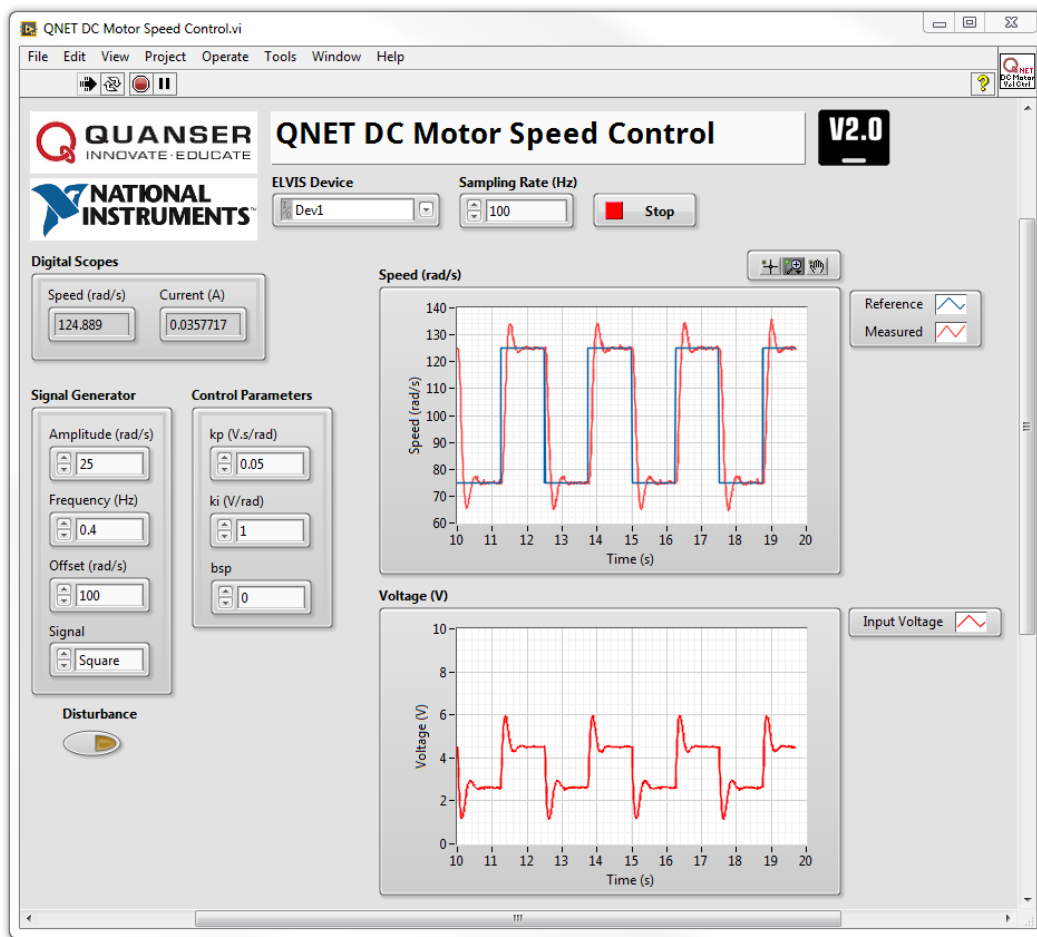

Figure 1.3: Virtual instrument for QNET DC Motor speed control
In the following laboratory, you will tracking a square wave with various PI gains as well as investigate the effects of set-point weights. The virtual instrument for speed control is shown in Figure 1.3.
4. Run the VI. The DC motor should begin spinning and the scopes should look similar to Figure 1.3.
- R** 8. Capture the measured speed response. Make sure you include both the Speed (rad/s) and the control signal Voltage (V) scopes.